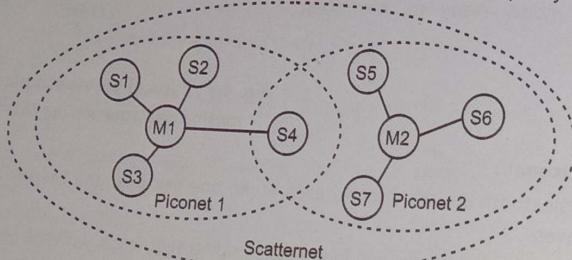

Fig. 4.10 : Bluetooth scatternet
- A Scatternet is a collection of two or more interconnected Piconets where certain devices participate in multiple Piconets simultaneously as shown in Fig. 4.10.